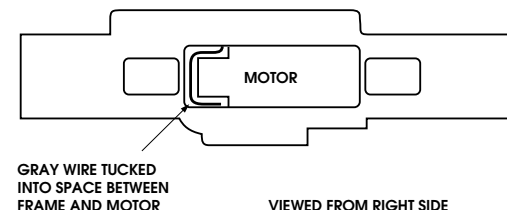

Fig. 3
- Your decoder and motor are now ready to be installed into the frame. With the left mainframe laid out in front of you (front to your right), install the motor with the ORANGE wire on the top. The GRAY wire goes on bottom as shown (Fig. 3). Inspect brush wires to be sure they are not touching frame.